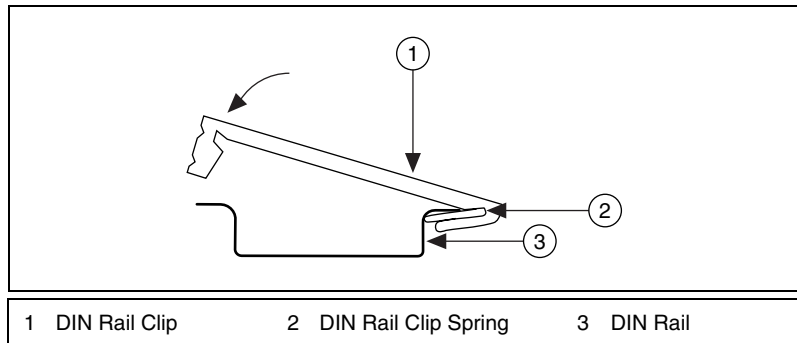

Figure 2-12. One Edge of DIN Rail Inserted in Clip
2. Insert one edge of the DIN rail into the deeper opening of the DIN rail clip, as shown in Figure 2-12.